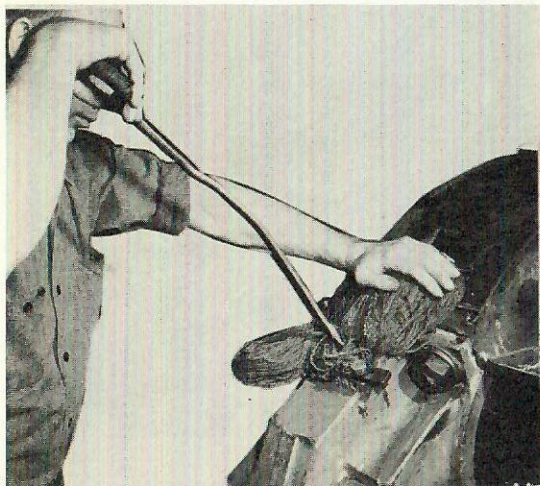
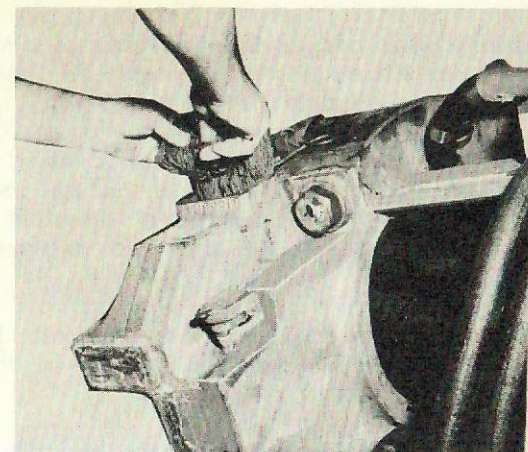

Fig. 19-10
Fig. 20-10
7. Then, using the long thin packing tool, insert one of the remaining skeins, laying it back and forth between wick and waste pusher. See Fig. 19-10.
8. Pack remaining skeins in same manner as described in item 7 above.
9. Remove the waste-pusher depressing fixture (or wedge) from cap and roll that portion of wick which protrudes from axle cap back over top of the backing waste and tuck it in securely. See Fig. 20-10.